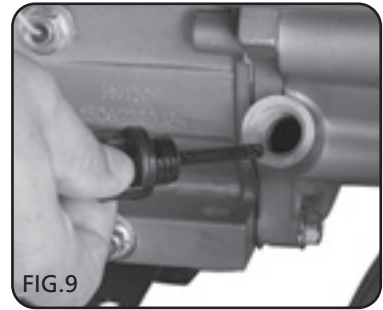

FIG.9
2. Remove the oil filter cap (12) by rotating the cap anti-clockwise and inspect to see the oil level (Fig.9).